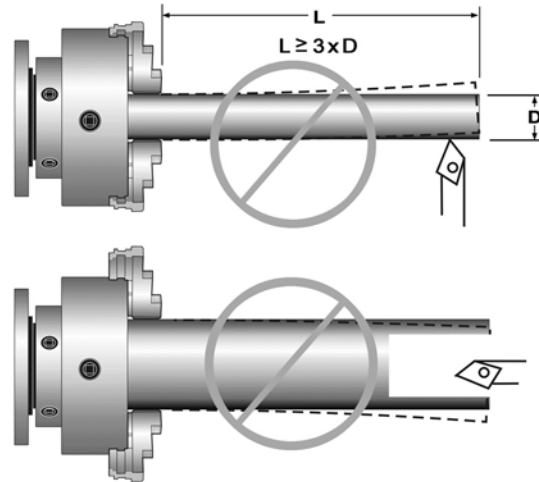

Figure 25 – Improper setups
- Avoid long workpiece extensions, as parts may bend or fly off (see figure 25). Use rests or the tailstock for support.